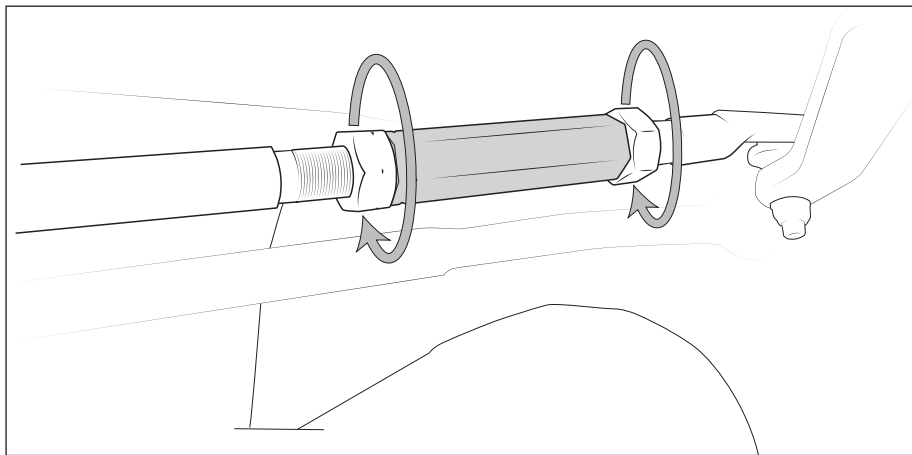

Figure 1
- d. Thread adjuster sleeve out until separated from drag link and pitman arm tie rod (fig. 1).